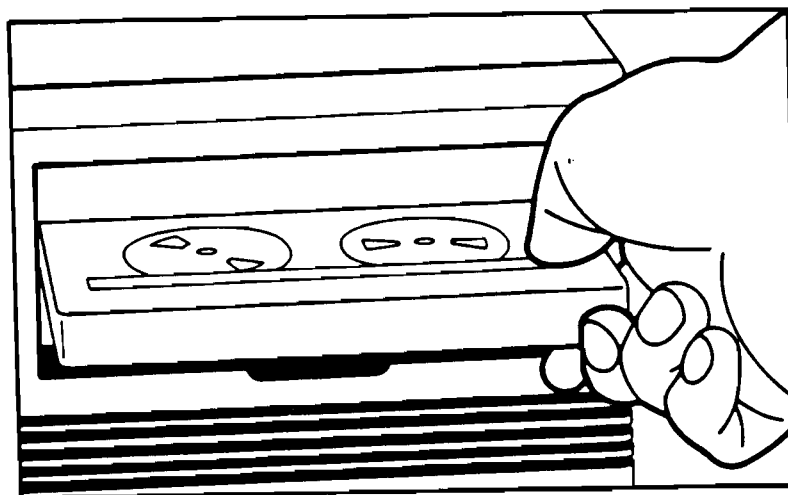

Figure 7-1. Insert the SUBSYS tape.
1. Insert the SUBSYS tape into the cartridge tape drive, as shown in Figure 7-1 below.